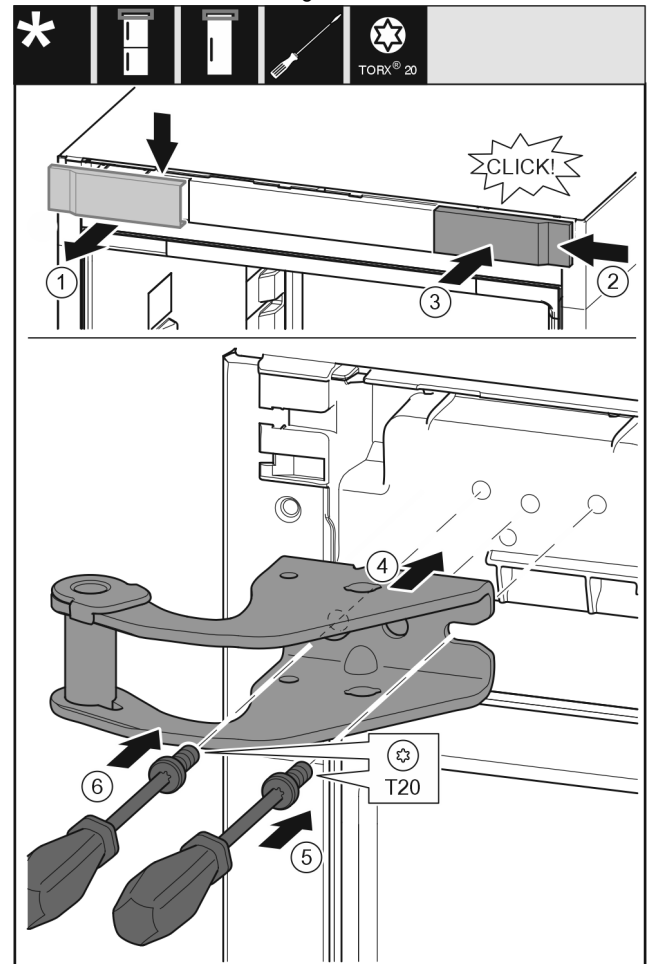

Fig. 11
- ▶ Take off the cover to the front from above. Fig. 11 (1)
- ▶ Rotate the cover 180° and clip onto the other side from the right. Fig. 11 (2)
- ▶ Latch the cover into place. Fig. 11 (3)
- ▶ Position the upper bearing bracket. Fig. 11 (4)
- ▶ Insert the screw with a T20 screwdriver and tighten it. Fig. 11 (5)
- ▶ Insert the screw with a T20 screwdriver and tighten it. *Fig. 11 (6)*